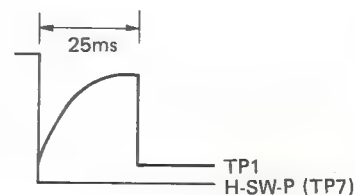

Figure 44
3. Selecting (-) sync slope with the oscilloscope, adjust R7744 to meet the requirement given in Figure 44.